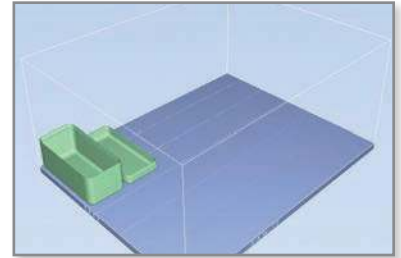

Figure 3: Long edge is along the Y-axis and matching surfaces are face up.
- When printing parts that have a high aspect ratio (X:Y), position the longer edge along the Y-axis (see Figure 3).